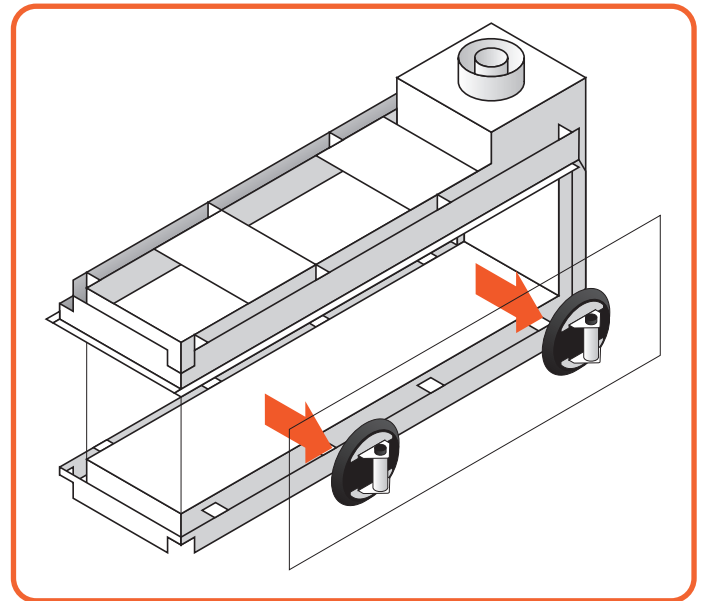

Figure 9.13 | Remove glass
- Lift the glass out of the lower glass rail and tilt it out through the opening, as seen in Figure 9.13.